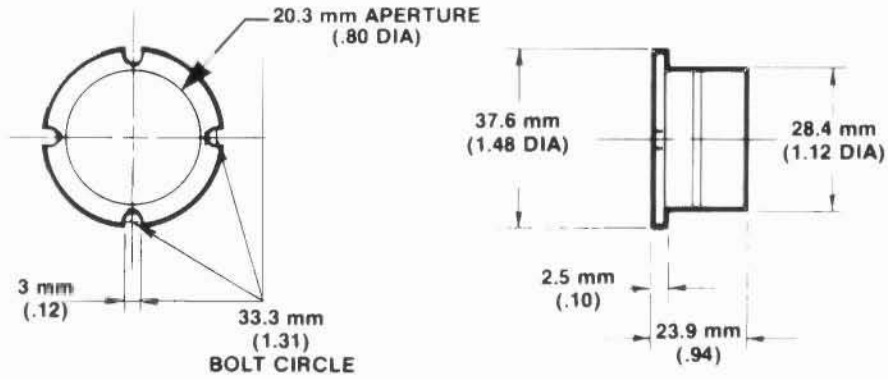

Figure 8-10. HP 10703A Retroreflector, Dimensions
**Dimensions:** See Figure 8-10.